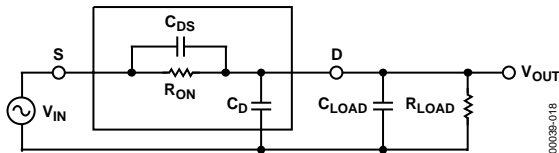

Figure 18. Switch Represented by Equivalent Parasitic Components
Figure 18 illustrates the parasitic components that affect the ac performance of CMOS switches (a box surrounds the switch). Additional external capacitances further degrade performance by affecting feedthrough, crosstalk, and system bandwidth.
The transfer function that describes the equivalent diagram of the switch (see Figure 18) is of the form (A)s, shown in the following equation: